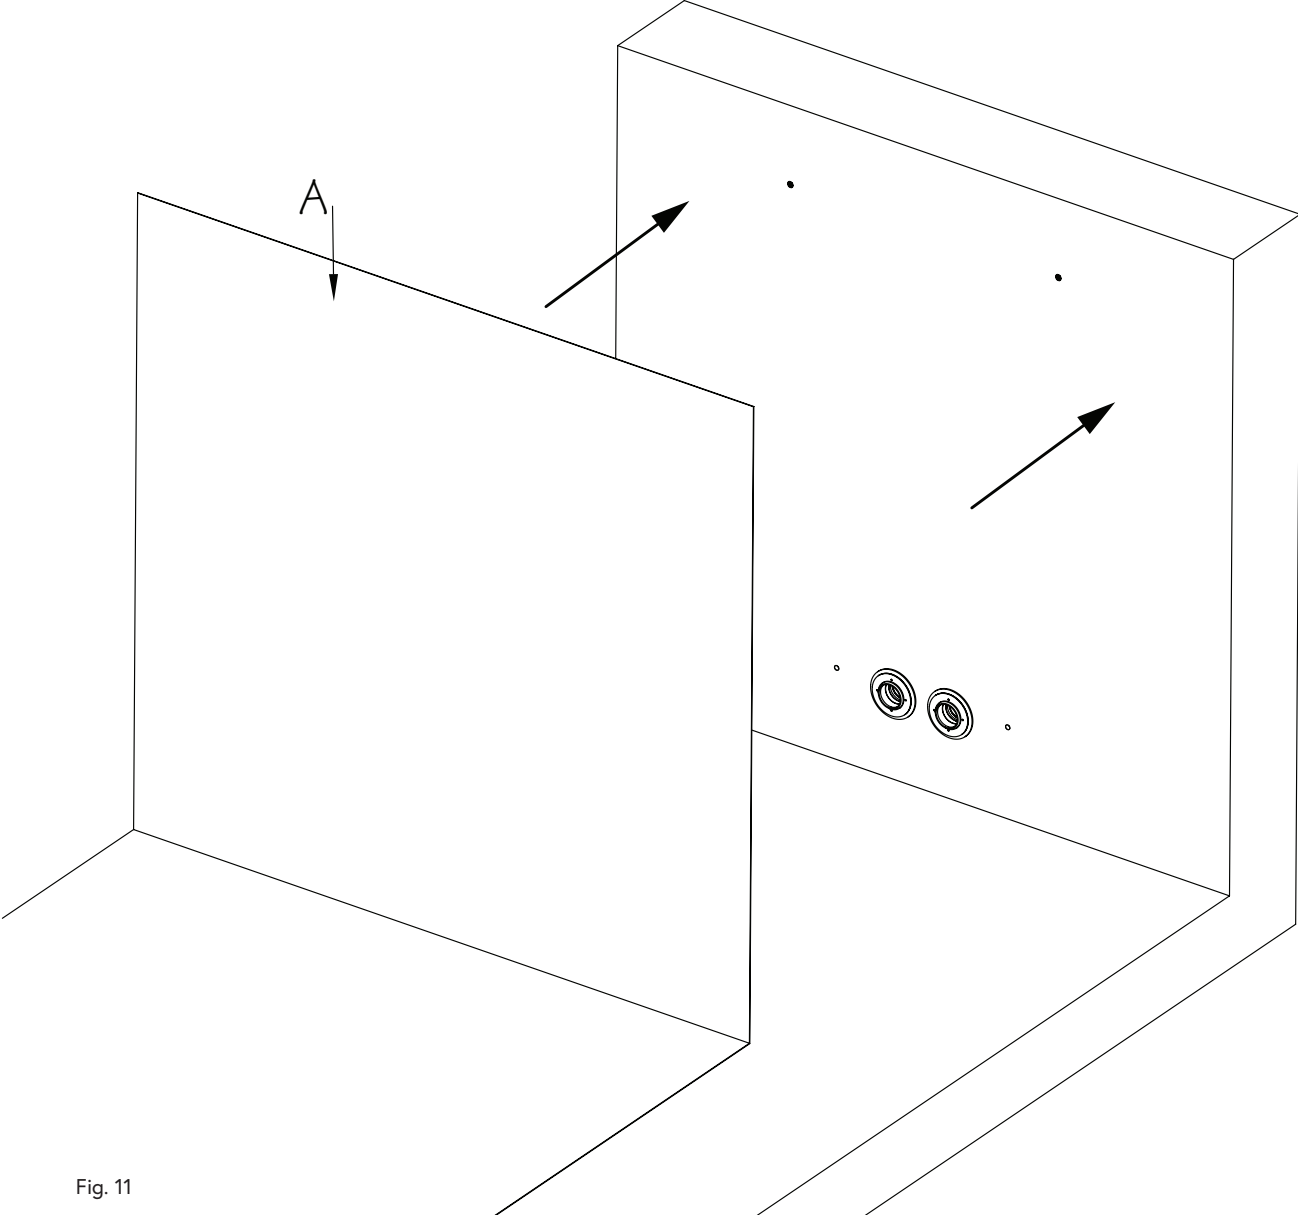

Fig. 11
8. The pool Liner (A) should be installed at this time (Fig. 11).